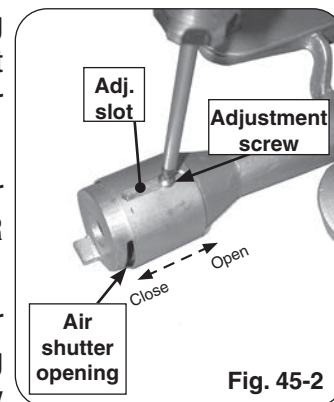

Fig. 45-2
3. Adjust the air shutter opening by loosening the adjustment screw with a screwdriver, then sliding the air shutter backward or forward to open or close the air shutter opening (see Fig. 45-2).